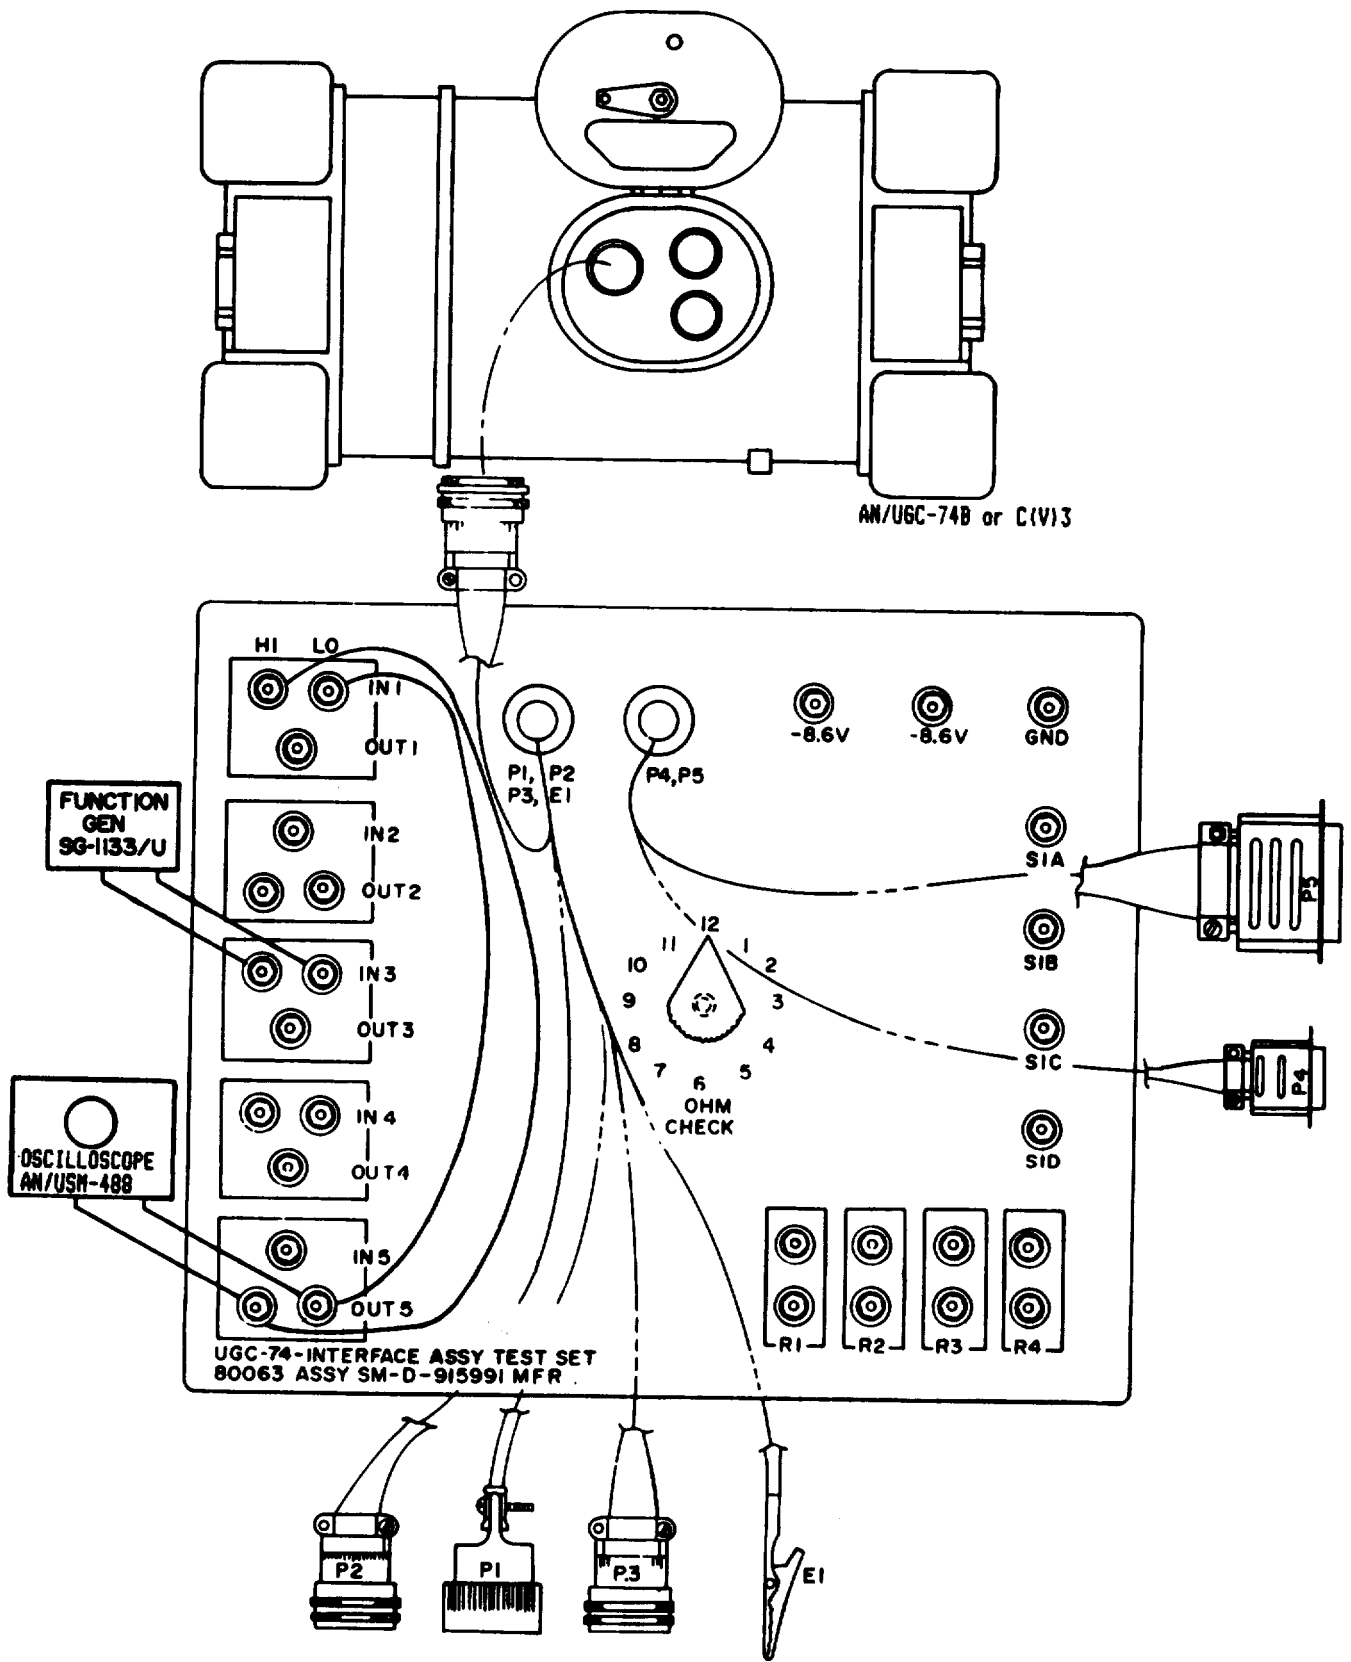

Figure 6-22. EQUIPMENT SETUP FOR DATA/CLOCK TEST
(See figures 6-22 and 6-23. )
5. Connect oscilloscope to OUT 5 HI and OUT 5 LO. (See figure 6-22 for test setup. )